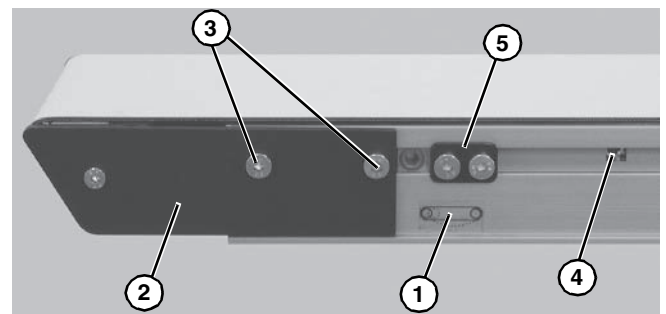

Figure 27
1. On tension end of the conveyor, identified with a  label (**Figure 27, item 1**), adjust head plate assembly (**Figure 27, item 2**): On both sides of conveyor, loosen fastening screws (**Figure 27, item 3**) and rotate pinion gear (**Figure 27, item 4**) to adjust head plate assembly.
3. After adjusting proper tensioning, tighten fastening screws (**Figure 27, item 3**) on both sides of conveyor to 60 in-lb (7 Nm).
4. If equipped with cam tracking assemblies (**Figure 27, item 5**) position against head plates and adjust belt tracking. Refer to "Conveyor Belt Tracking", next section.